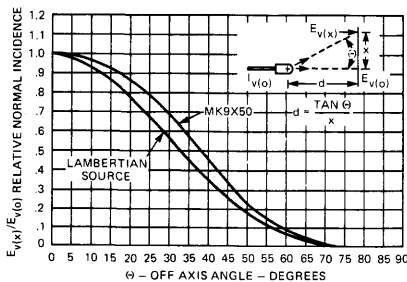

Fig. 13. Normalized Incidence on Diffuser
The edge of legend to center of legend illuminance ratio describes the illuminance uniformity. An illuminance uniformity of 0.5:1, or -3dB has proven acceptable due to the human eye's logarithmic response. Figure 13 presents a plot of the included angle (θ) versus $E_{v(x)}/E_v(0)$ for the MK9X50 series lamps. This plot indicates that the edge of legend to center of legend ratio of 0.5 occurs when the included angle between the lamp and the edge of the legend ($h/2$) is 38.5 degrees.
1. From Figure 13, a $E_V(x)/E_V(0)$ of .5, $\theta = 38.5$
Using Figure 13, the lamp to legend distance, d_0 , is determined to be 0.32 inch . The illuminance is calculated from Equation (8) to be 18.9 fc .